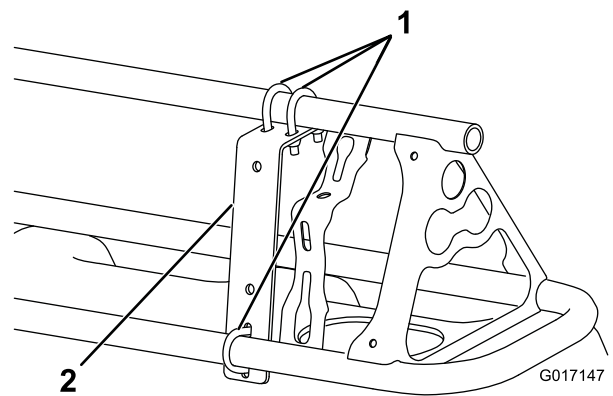
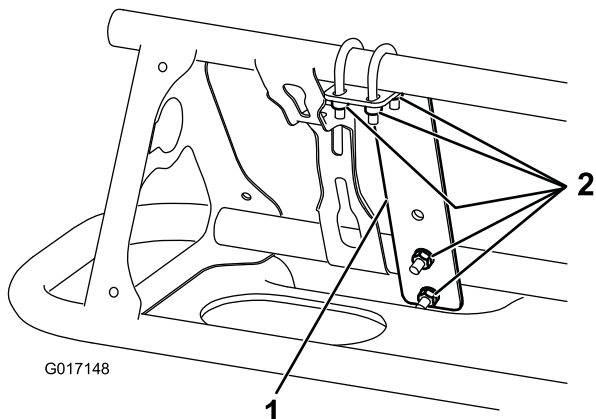

Figure 5
Figure 6
- Install a mounting bracket on the front side of each boom near the outermost nozzle with 3 U-bolts and 6 locknuts (1/4 inch) (Figure 5 and Figure 6).